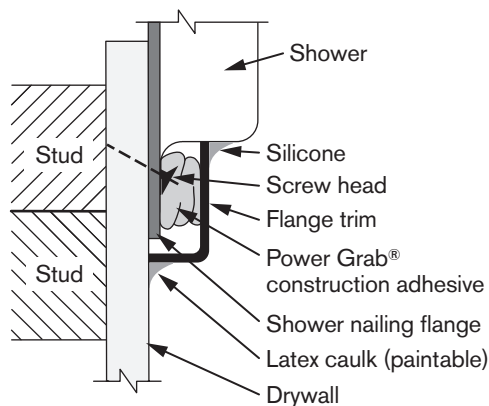

Figure 3
5. Caulk around all edges. Use 100% silicone between shower and trim; use paintable latex between trim and drywall (Figure 3).
- cut out to install the shower (Figure 3); or